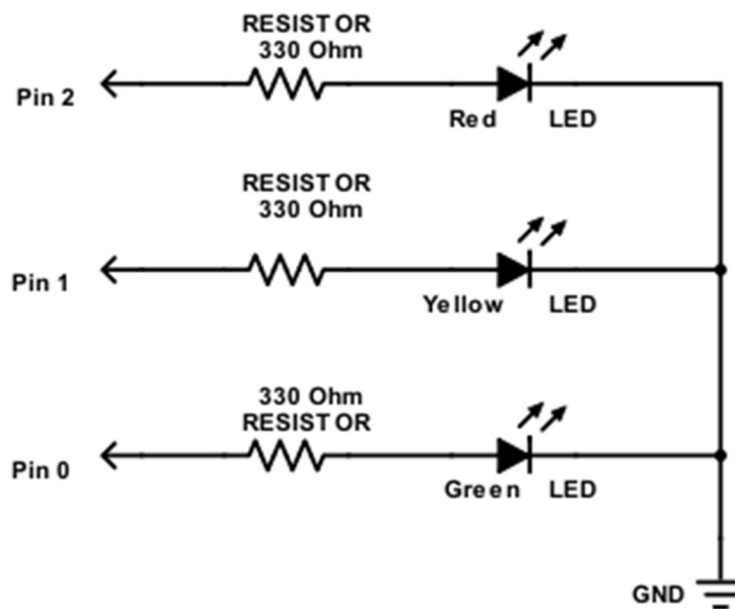
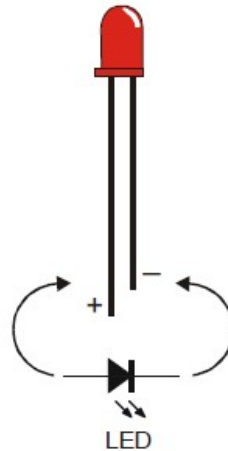
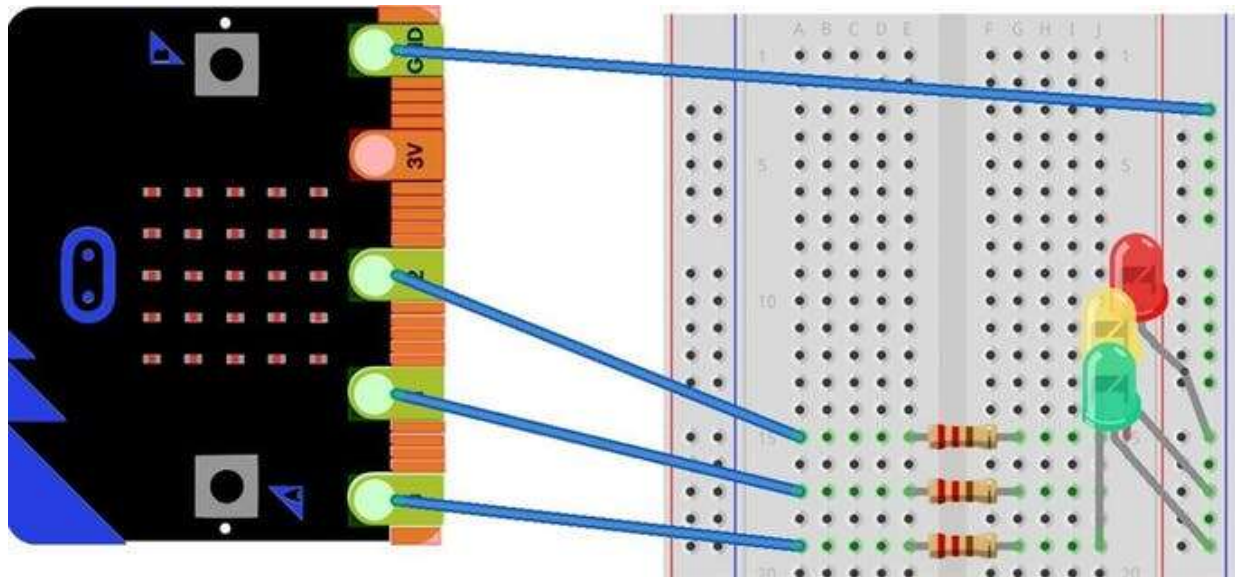
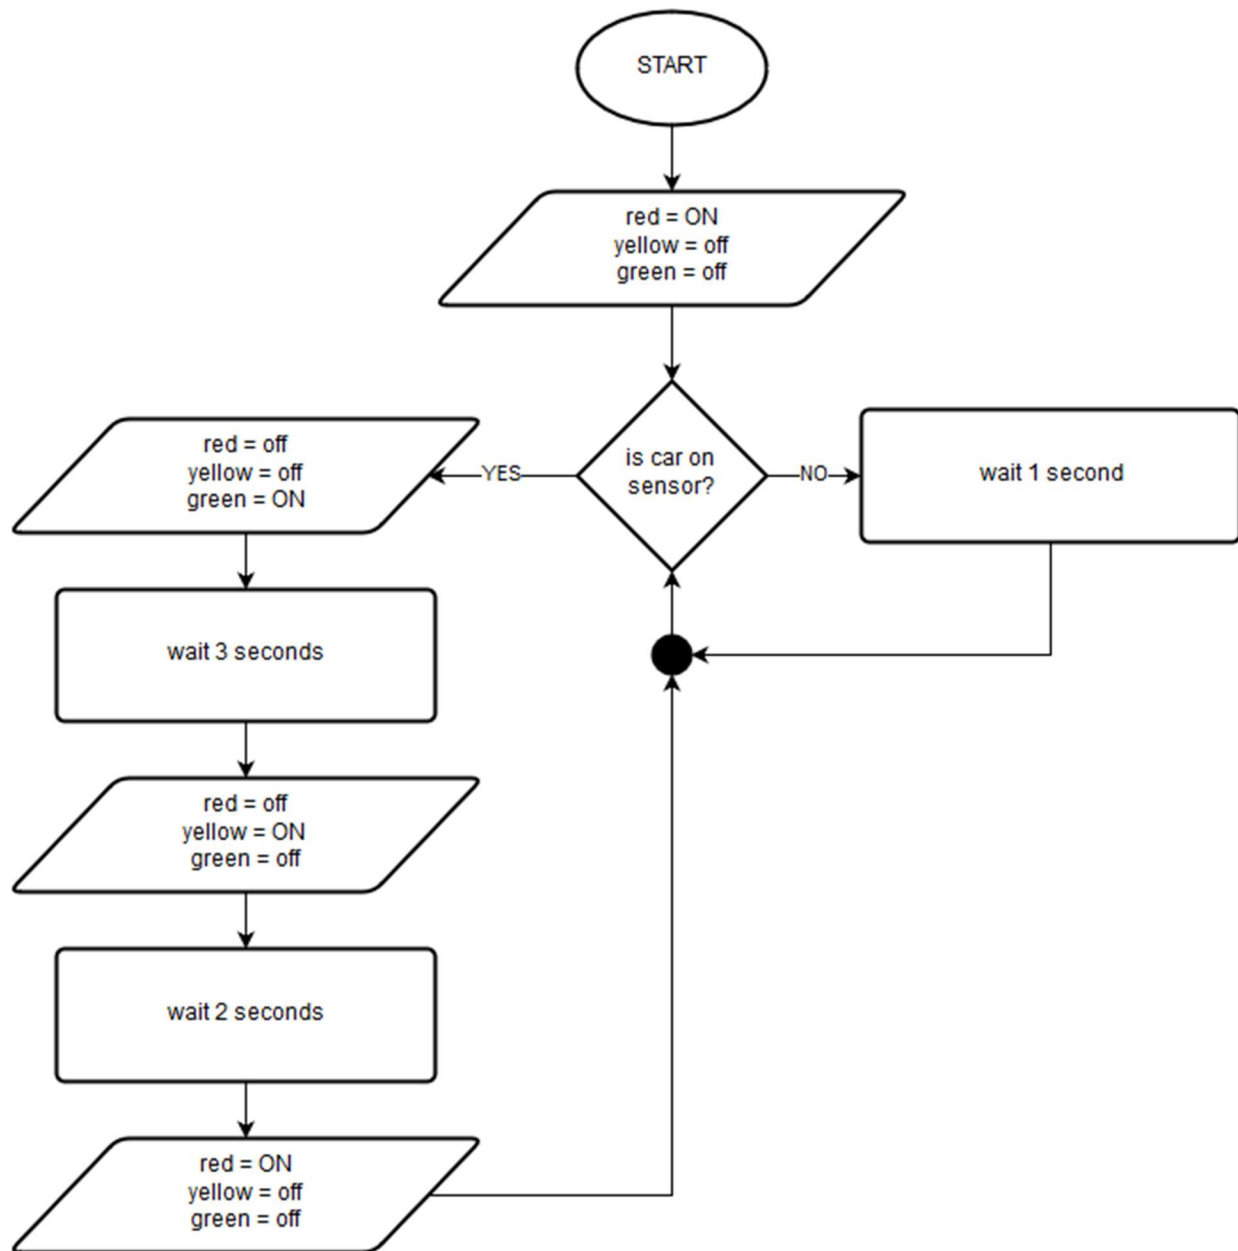

Figure 1. LED Circuit
Figure 2. Light Emitting Diode
Figure 4. Traffic light LED circuit
Figure 5. Traffic light algorithm
You will need three (3) LEDs, one red, one yellow, and one green LED. You will also need three (3) resistors. You need a resistor that is at least 150 Ω (Ohms) and no more than 330 Ω . Remember it is important to use resistors to make sure that we don't damage either the LEDs or the Micro:bit. The circuit diagram shown in Figure 1 illustrates Pin 0, Pin 1, and Pin 2 of the Micro:bit are connected to the three LEDs (one pin per LED), then to the resistors, then all three are connected to the ground (GND) pin on the Micro:bit.
Remember that wires and resistors will conduct electricity in any direction. This means it does not matter which way you connect alligator clips (a.k.a. crocodile clips) or resistors. However, a LED will only conduct electricity in one direction. The schematic shown in Figure 1 tells us which way to connect the LED once you know which wire on the LED is marked positive (+) and which one is marked minus (-). Figure 2 shows us how to distinguish the wires on a LED. Notice the longer wire is the positive.
Assemble the circuit on a breadboard as shown in Figure 4. You should use alligator clips to connect the blue wires to the Micro:bit. You must wire the circuit exactly as shown on the breadboard. Notice in Figure 4 that the resistors are placed across the ravine of the breadboard so that one end of the resistor is on either side (remember the two halves of the breadboard on either side of the ravine are NOT connected). Figure 4 shows which rows and columns are used on the breadboard with faint green shading. In this image, the negative power rail is blue and is used to connect the negative side of the LEDs to GND. The positive wire on the LED is connected to the resistor (see Figure 1).
Now we are ready to design our program to control our traffic light LEDs. The program is similar to our previous project where we blinked a LED on and off. Our traffic light start with a red light and wait for a “car” to arrive. When a vehicle arrives our “car detector” will let our program know that a car has arrived. We will use a pushbutton to detect when a car arrives. Because computers can do things really fast and making the computer check hundreds of times per second for a car wastes energy, we will only check our “car detector” once per second. Once a car arrives, we will change the light to green and start a timer. The timer will determine how long the light is green and will count 3 seconds. After the 3 second timer expires, the light will turn yellow and we’ll start a second timer to count to 2 seconds. After the 2 second timer expires we change the light to red and wait for the next car to arrive. Figure 5 shows our algorithm as a flowchart.
Create your program using the flowchart shown in Figure 5 then follow the same steps you learned in the “Introduction to the Micro:bit” lesson to load your program into your microcontroller. If your program does not work as expected, carefully review your circuit to make sure it matches Figure 4 and verify that your program matches Figure 5. The complete program is shown on the next page in Figure 7.